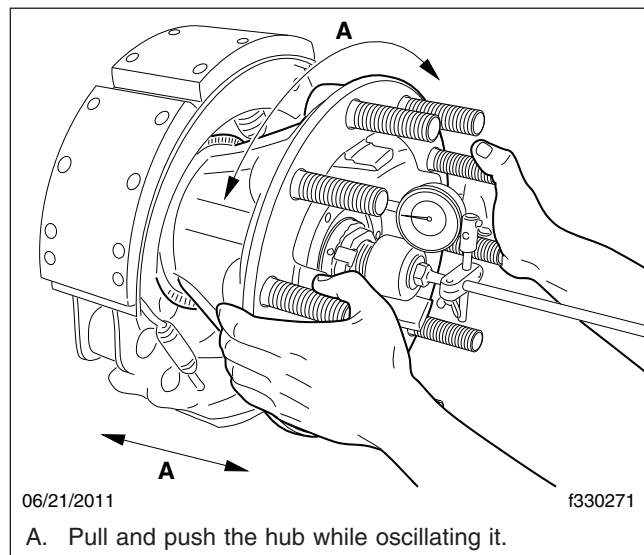

Fig. 12, Measuring End Play
- 11.2 To seat the bearings, grip the hub at the three o'clock and nine o'clock positions, and push inward while oscillating it approximately 45 degrees. Maintain pressure on the hub, note the inboard measurement, and then pull the hub outward while oscillating it as before. Maintain pressure on the hub, and note the outboard measurement. See Fig. 12.